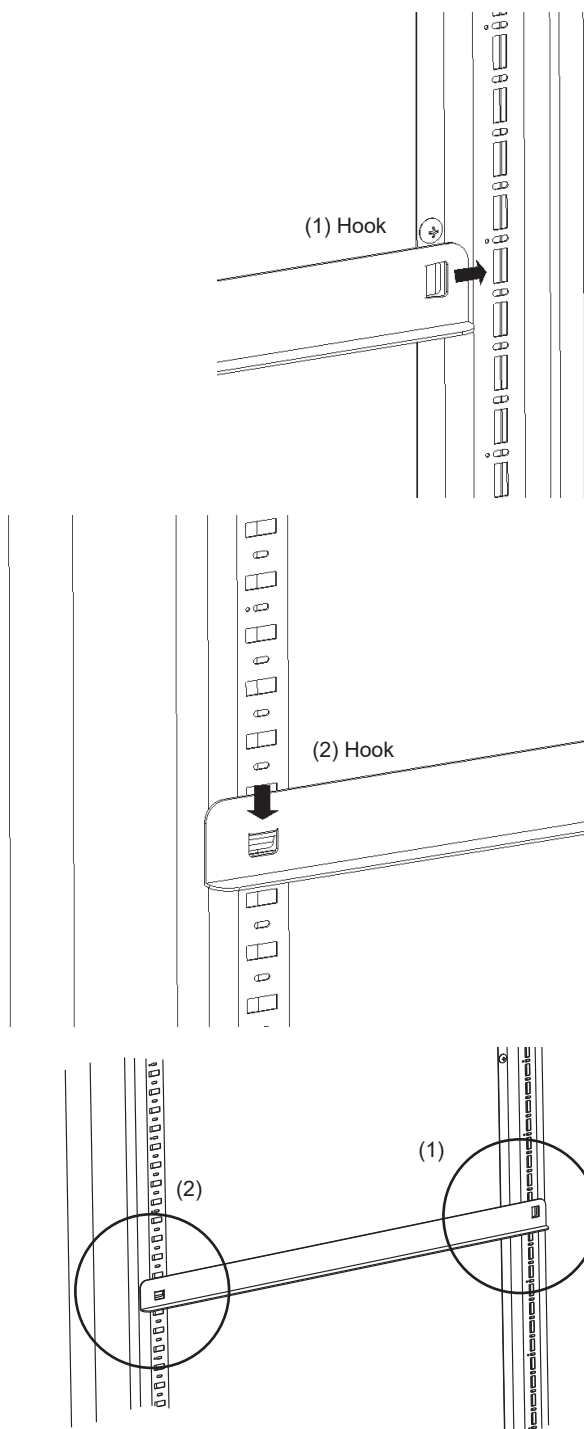

Fig. 9
\* To attach the rail, (1) push the rail hook backwards to fit into the square hole in the rear shelf post, and (2) push the rail hook down to fit into the square hole in the front shelf post. To detach the rail, reverse the above procedure. See Fig. 9.